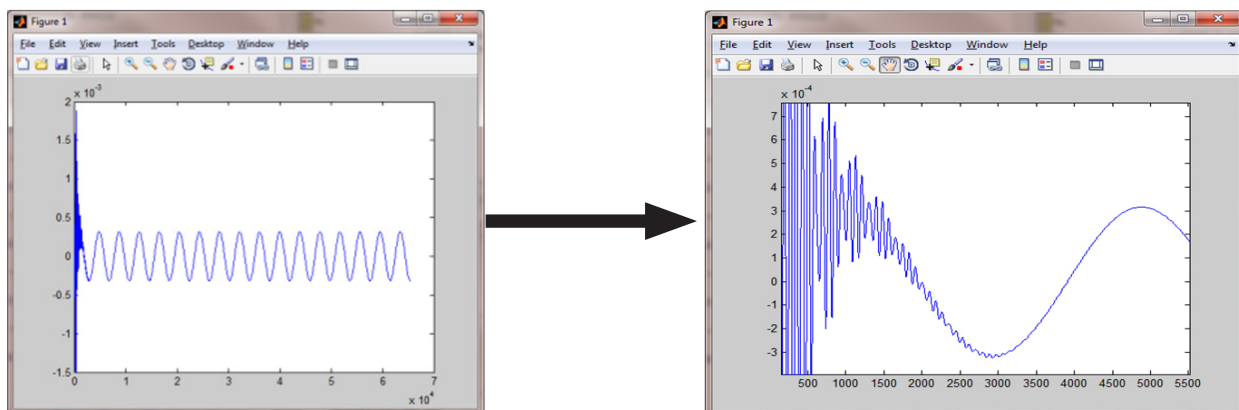

Figure 12. Zooming into the graph to see in-depth result
A 20 Hz Sine wave graph with the filter applied (Figure 12) is created.
3. By zooming into the graph you are able to search for the result (Figure 12)